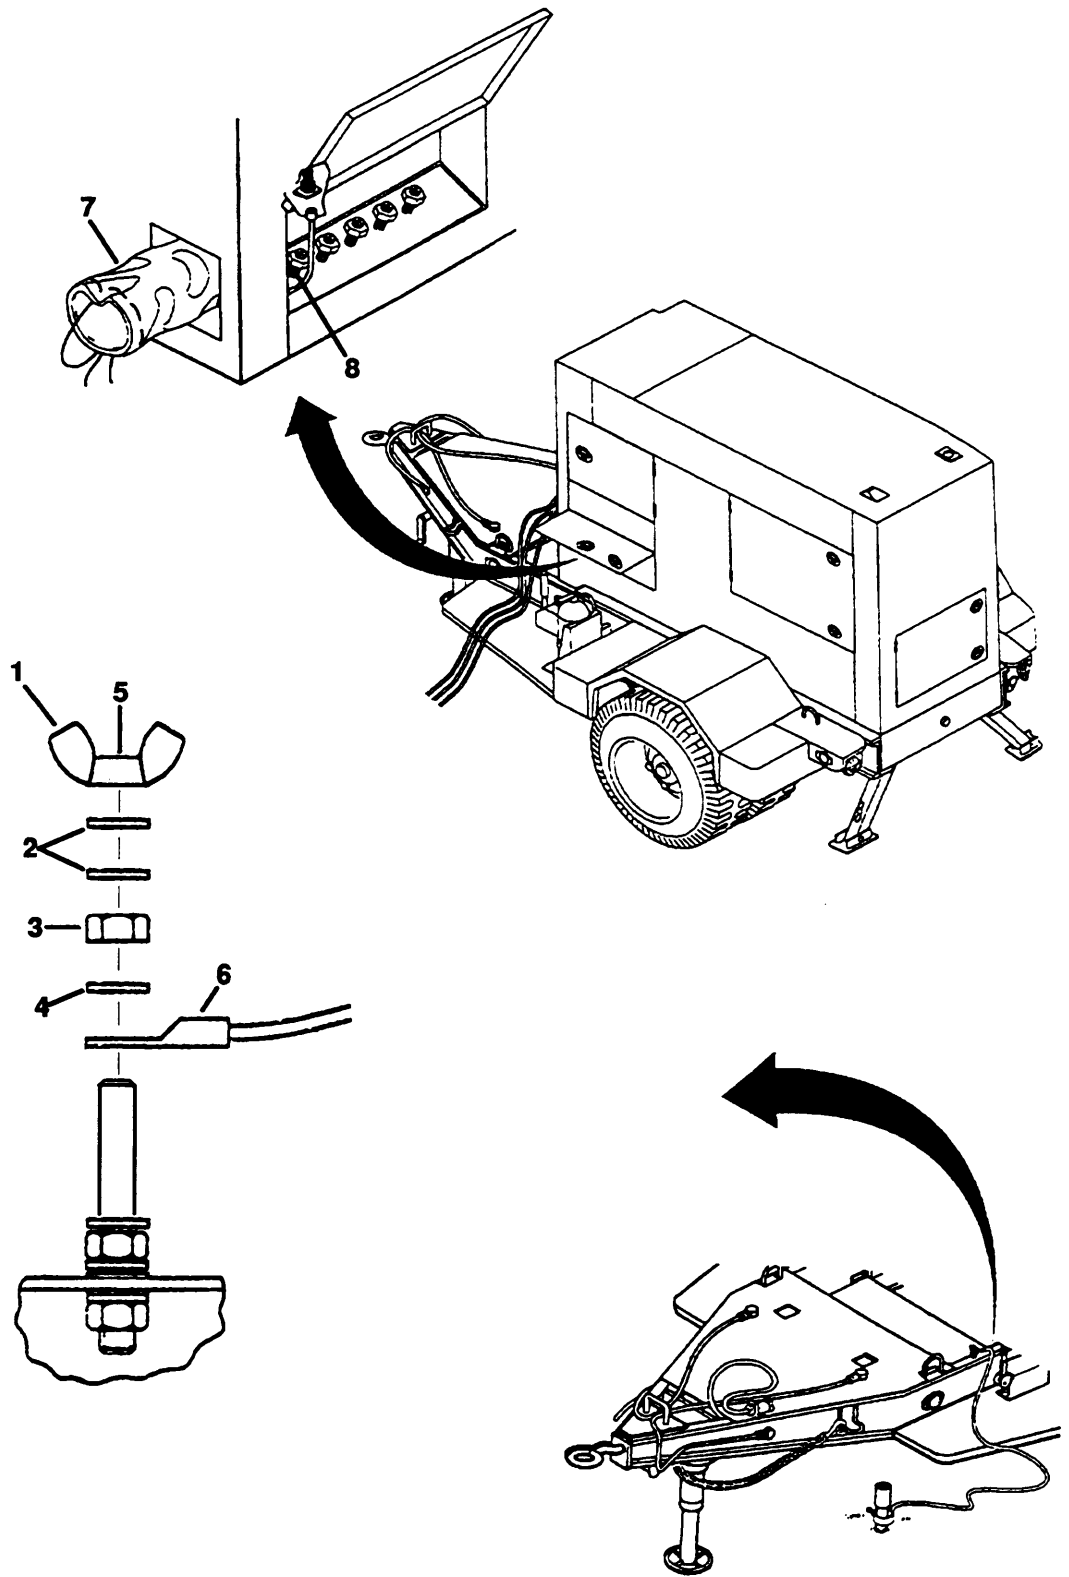

Figure 4-2A. Installation Instructions
Refer to figure 4-2A and assemble the AN/MJQ-41 as follows.
- (1) Remove wing nut (1, figure 4-2A) two flat washers (2), hex nut (3), and flat washer (4) from ground stud (5).
- (2) Place ground wire (6) over ground stud (5).
Refer to figure 4-2A and assemble the PU-805 and PU-806 as follows.
- (1) Remove wing nut (1, figure 4-2A), two flat washers (2), hex nut (3), and flat washer (4) from ground stud (5).